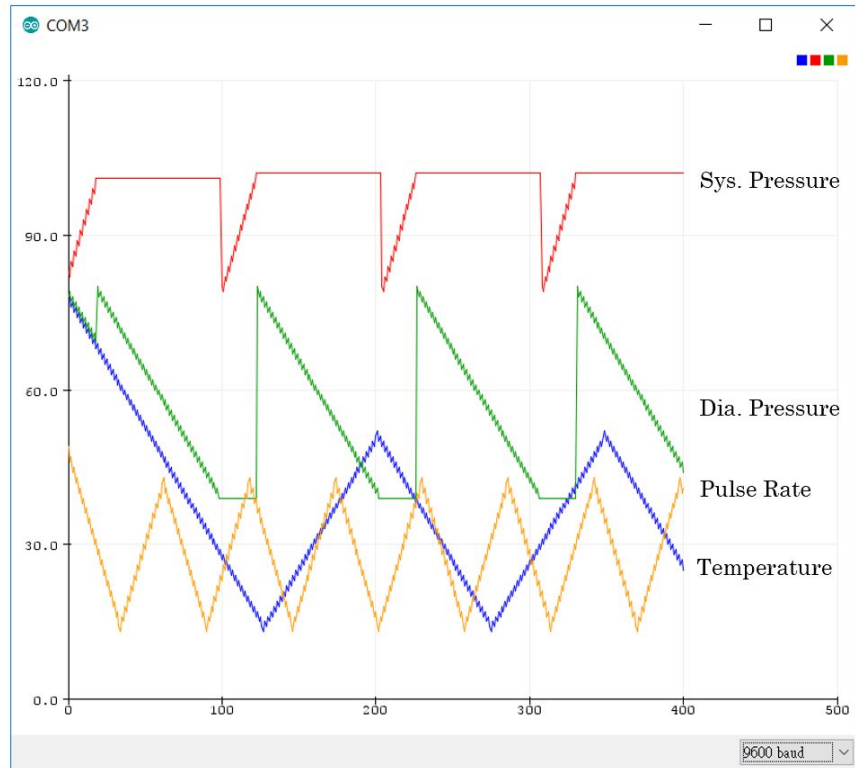
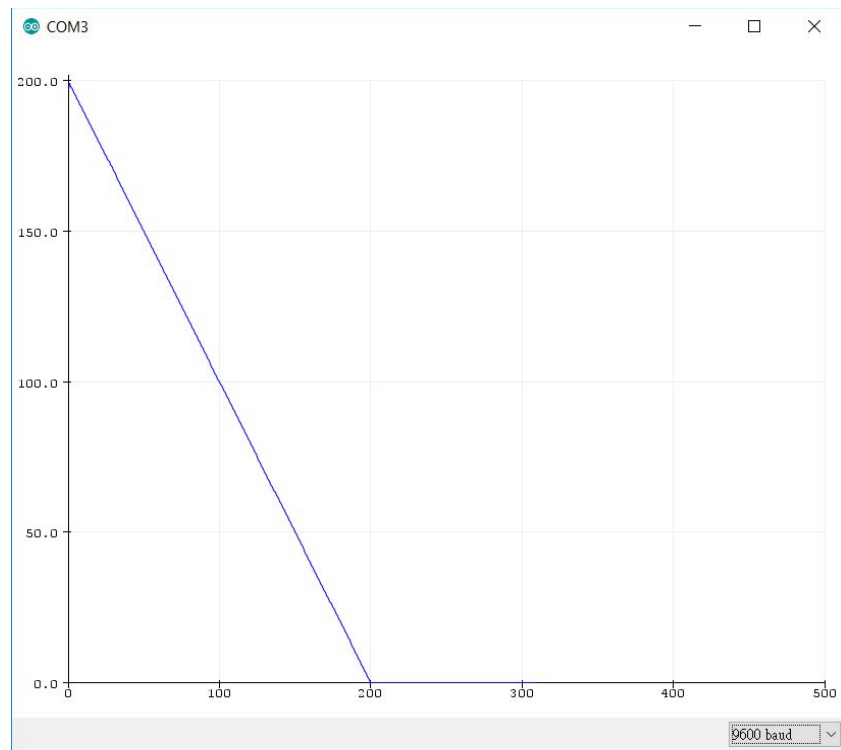

Figure 3 Value from UNO get_Measure function
Figure 4 Value from UNO get_Satus function
- Raw data Plot for verification- all line in both figure 3 and figure 4 matches the design specification described above. (These figures are generated by UNO Serial plot)